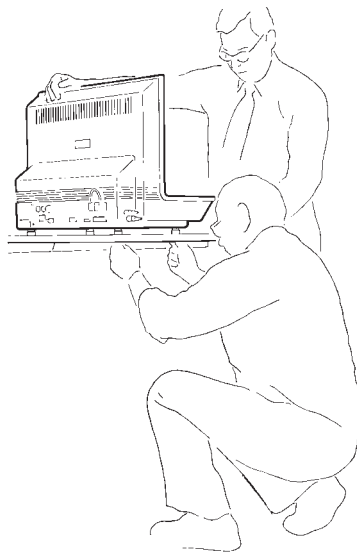

Figure 2.2
4. Place the unit on a lab bench with one side hanging over the edge of the bench (see Figure 2.2). **Someone must be holding onto the unit at all times while it is in this position.**